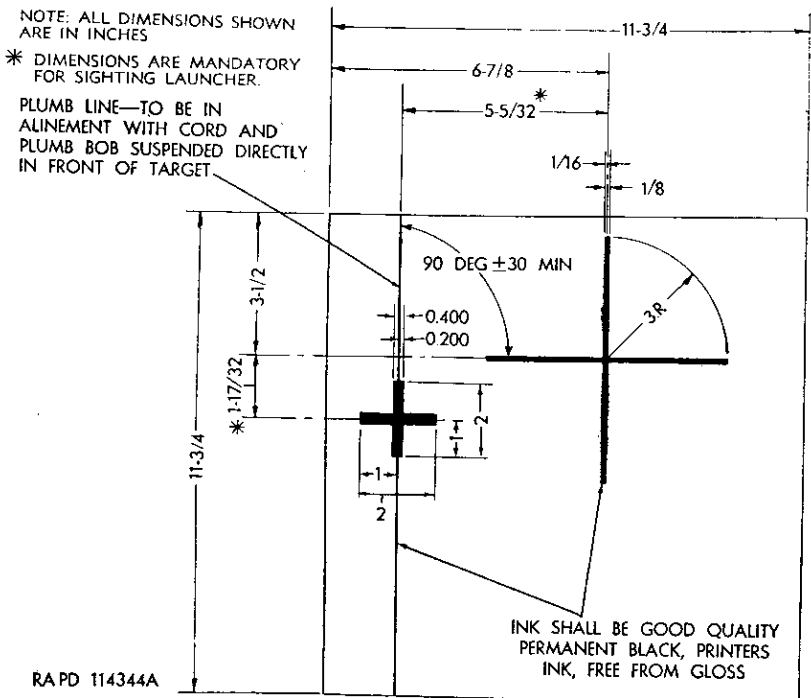

Figure 41. Testing target for 3.5-inch rocket launcher.
b. TESTING TARGET METHOD. A target must be prepared in accordance with figure 41. The forward and rear bore sight plugs must be improvised in accordance with figure 40.
- (1) Insert the forward bore sight plug (with the cross-hairs) into the bore at the muzzle end of the launcher and the rear bore sight plug (with the peep hole) into the bore at the loading end. Set the launcher in an improvised boresighting stand which holds the launcher firmly in a horizontal position and locate the target $100 \pm \frac{1}{4}$ inches forward of the front edge of the sight mounting bracket. Suspend a plumb bob directly in front of the target. Aline the plumb line on the target (fig. 41) with the cord of the plumb bob.
- (2) Sight through the forward and rear bore sight plugs and aline the center line of the launcher bore accurately on the intersection of the cross on the target. Set the indicator arm at "0" on the elevation plate. Sight through the reflecting sight. The image of the reticle normal line, marked "0," must fall within the horizontal arm of the smaller heavier cross on the target; likewise, the image of the vertical center line on the reticle must aline with the plumb line on the target and must fall within the vertical arm of the smaller, heavier cross on the target.
- (3) If the target cross is not vertically centered, adjust the reflecting sight in elevation as described in paragraph 56*a*. This adjustment is made, as necessary, to bring the image of the horizontal normal line of the reticle on the horizontal arm of the smaller cross on the target.
- (4) If the target cross is not laterally centered, adjust the reflecting sight in azimuth as described in paragraph 56*b*. The image of the vertical center line of the reticle must aline with